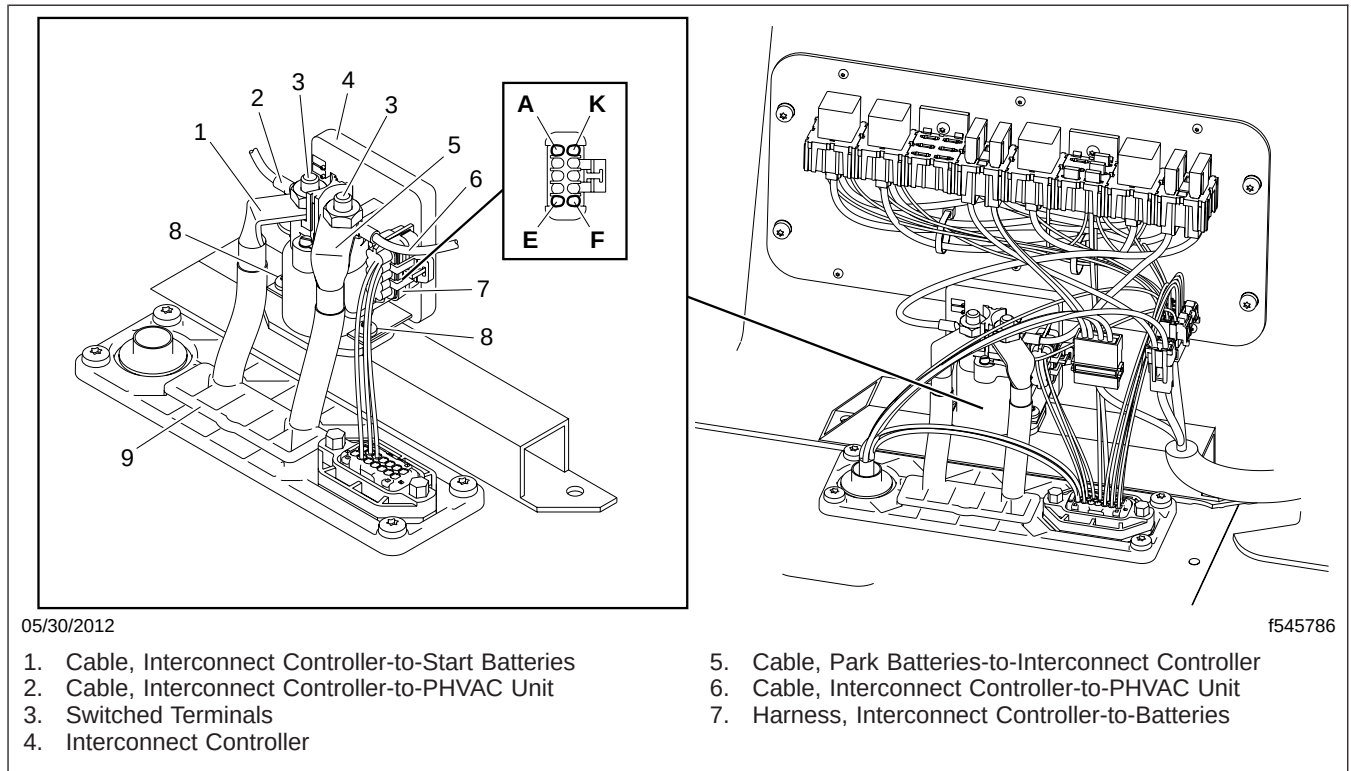

Fig. 6, Interconnect Controller Installation (from July 2011)
- 5.3 Remove the terminal nuts from the interconnect controller, and disconnect the two wires going to the electrical center. See Fig. 6.